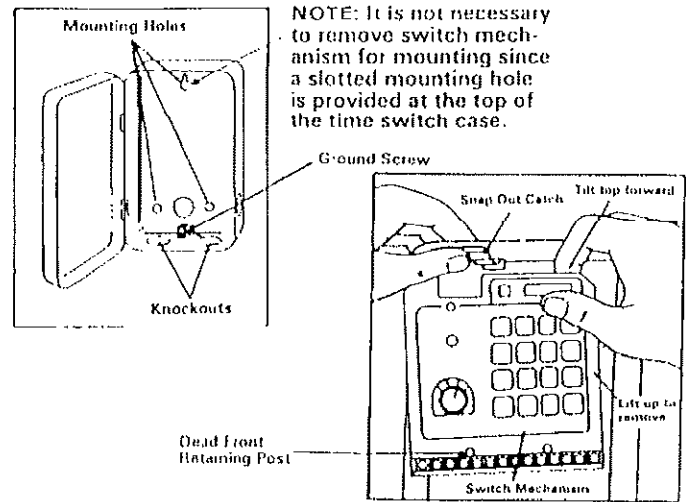

Fig. 1
**REMOVE DEAD FRONT (fig. 1):** An electrical insulator called a "dead front" is installed to prevent accidental contact with the electrical connections, and a possible shock hazard. Lift the left side of the dead front off of the retaining post and pivot it up and to the right to expose the terminal strip. Be sure to replace the dead front after making all wiring connections.
**CHECK WIRING:** Make sure all grounding leads are securely connected to a good earth ground. (See fig. 1) Check all wiring then replace the dead front by pivoting it down over the locating post provided.